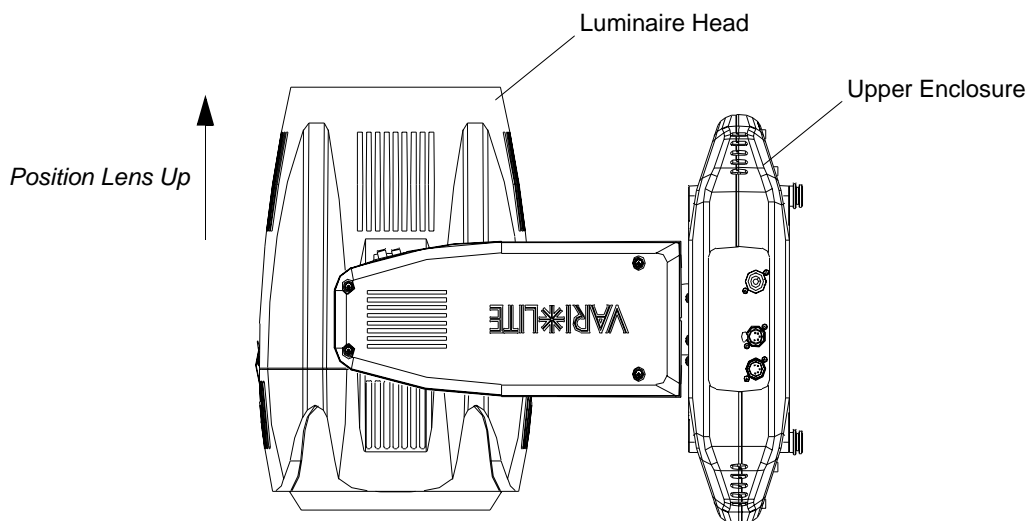

Figure 2-61: VLX Wash Luminaire
- Step 2. Carefully lay luminaire on flat, steady surface to have access to bottom cover of upper enclosure. Rotate head as shown in Figure 2-61.